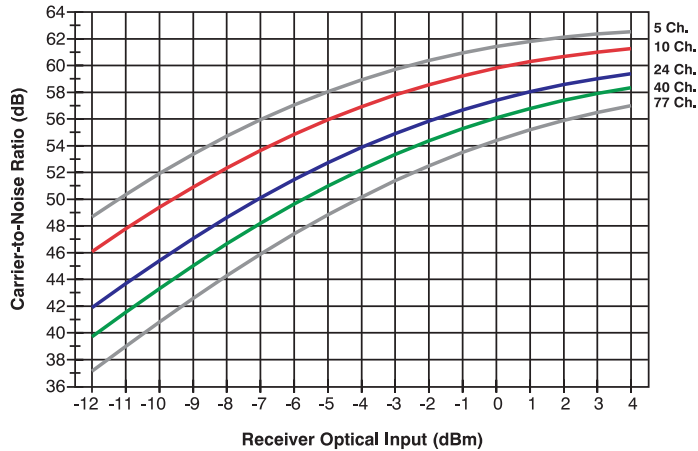

Figure 1.3 CNR vs. Rx Optical Input and Channel Loading (2805T with 2808R)
- 5) Figure 1.3 presents a tremendous amount of performance data for the 2805 link. The horizontal axis is the amount of optical light that reaches the receiver. (It is not the loss between the transmitter and receiver.) The vertical axis shows the carrier-to-noise ratio at a given optical input level.